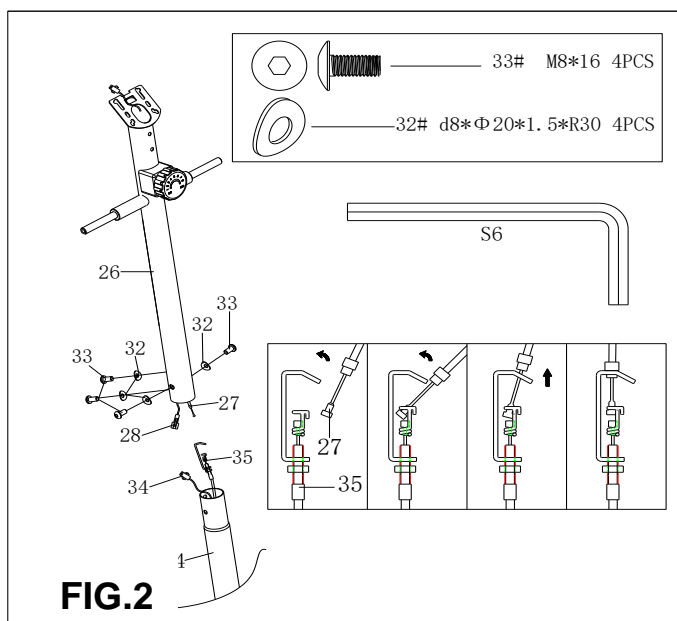

FIG.2:
Connect the Sensor 28 and 34,and Tension Control wire 27 and 35 as shown in FIG.2, fix the Upright Post (26) with the Main Frame (44) with Bolt (33), Arc Washer (32). Note:Tighten the Screw(33) and the arc washer(32) after the STEP3